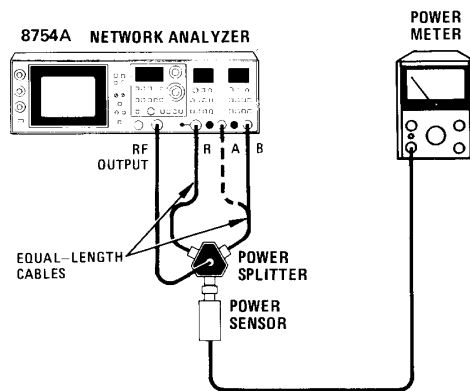

Figure 4-14. Absolute Frequency Response Test Setup
Equipment listed is for two test setups, Figures 4-14 and 4-16.
1. Calibrate power meter, then connect equipment as shown in Figure 4-14, with cable connected to the A INPUT port.